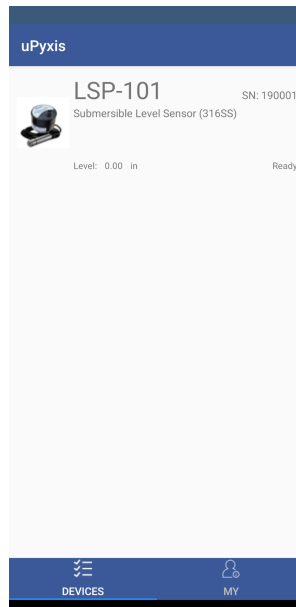

Figure 8.
3. If the connection is successful, the LSP-X01 Series and its Serial Number (SN) will be displayed (Figure 8).